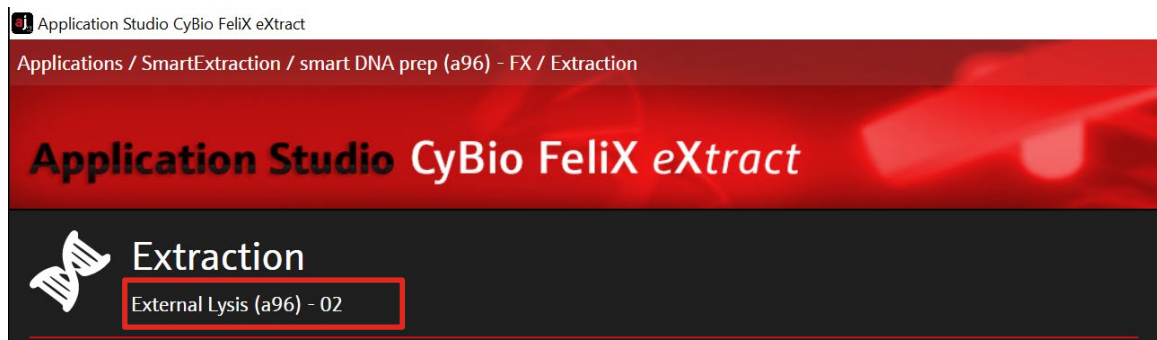

Figure 15: Version number of the extraction protocol.
9. Check the right protocol version "External Lysis (a96) – 02" (→ see Figure 15).